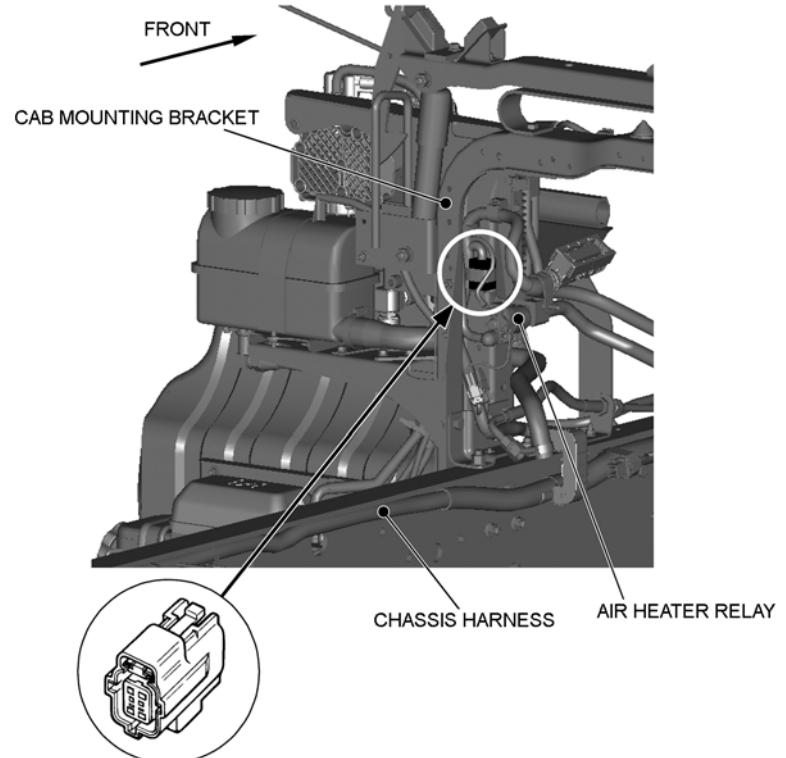

Fig. 5 Location of engine control lever connector
- 4) The harness is to be connected to the chassis harness located at the rear of the cab mount, in the left rear portion of the engine. For detail concerning harness connection, refer to the "Location of engine control lever connector" in Fig. 5.